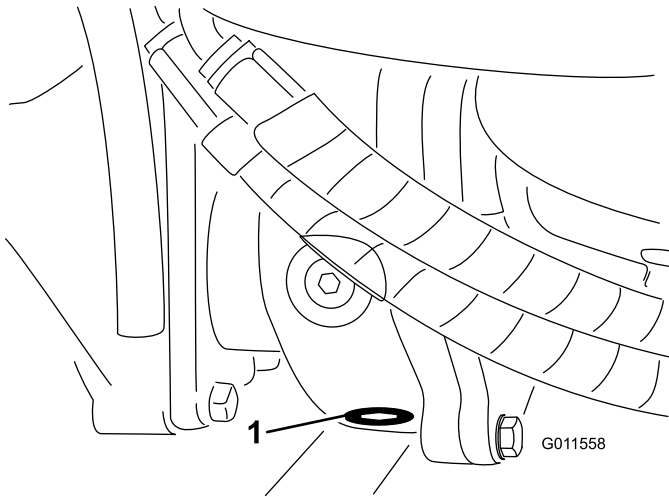

Figure 66
5. Clean the area around the drain plug at the bottom of the gearbox (Figure 66).